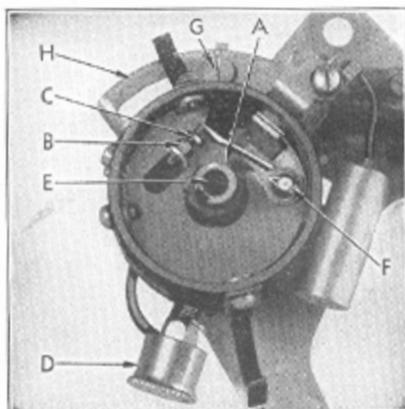

Figure 25
**LUBRICATION**—Every 1,000 miles the distributor shaft grease cup (D), Fig. 25, should be turned one complete turn. Keep the cup filled with water pump grease.
**BREAKER POINT ADJUSTMENT**—Correct breaker point setting is .020". These points are adjusted by removing the distributor cap and cranking the engine until the fiber block on the breaker arm is on the highest point of cam lobe (A), Fig. 25. Then loosen lock nut (B) and adjust screw (C) until the correct clearance is obtained. Tighten lock nut and re-check gap. Breaker points should be clean, smooth, and make full
The distributor rotation is *counter-clockwise*. Loosen the distributor advance arm screw (O), Fig. 25, and rotate the distributor housing *counter-clockwise* to the limit of the slot in quadrant (U). Take off the distributor cap and remove the central wire from the cap. Place the bare end  $\frac{1}{8}$ " from the cylinder head. Turn on the ignition and rotate the distributor body *clockwise* slowly just until a spark jumps from the high tension wire to the cylinder head. Tighten screw (G), replace central cable in cap, and clamp cap on distributor. With the distributor cap in position, the metal strip on the rotor should be directly in line with No. 1 terminal. The cables should be in the cap terminals in the order, 1-5-3-6-2-4, following in a *counter-clockwise* rotation.